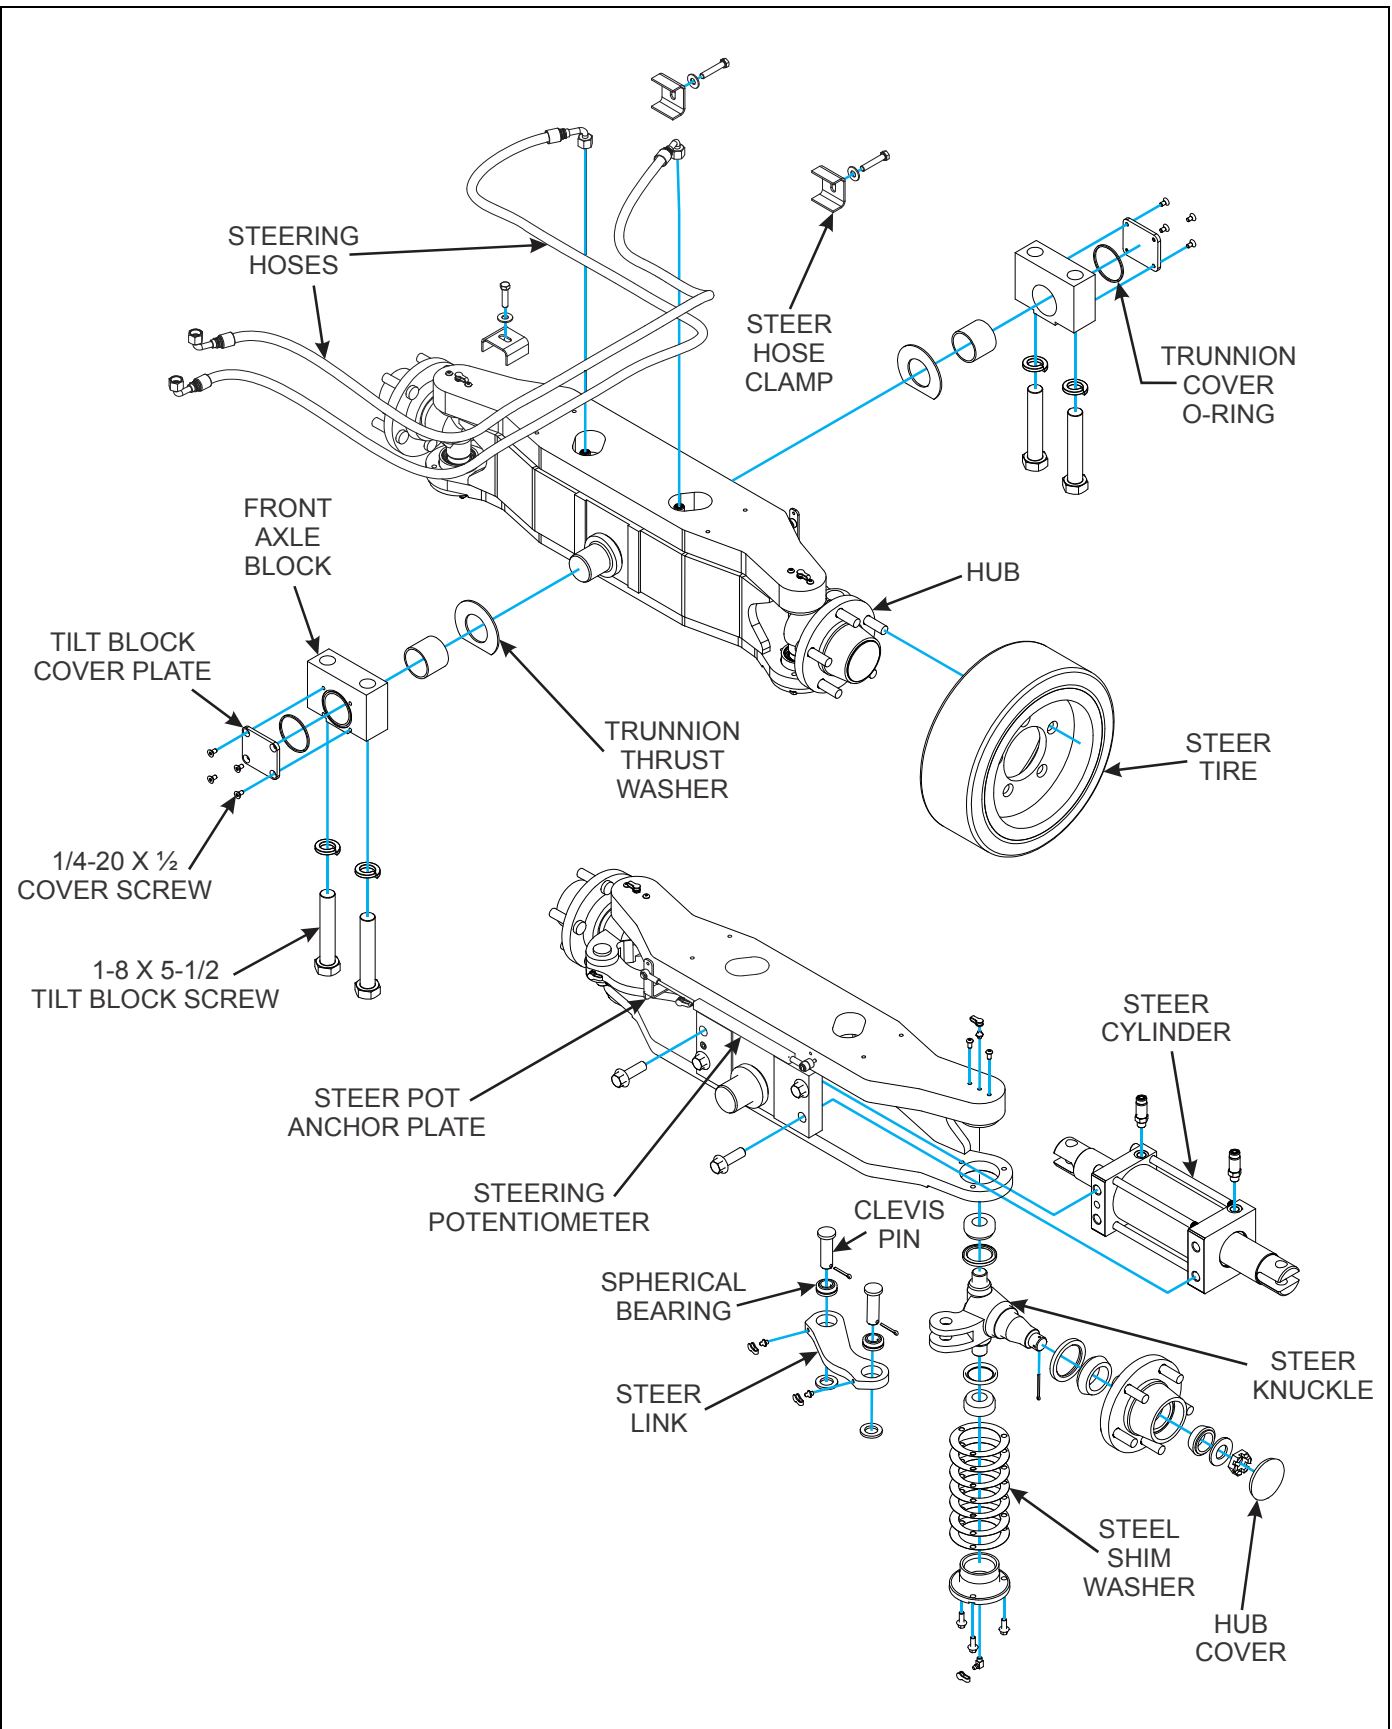

Figure 3-24: Steering Axle Assembly
1. Remove the steering potentiometer and potentiometer bracket (See Figure 3-24).
3. Remove king pin cover plates and kingpin locking screw (3/8-16 x 2-1/2 hex head cap screw) (See Figure 3-24). Remove kingpin by pushing from the top down.
1. Clean the kingpin cover plates and cover pockets on steering yoke (See Figure 3-24). Clean the steering yoke and rear axle weldment.
10. Install the steering potentiometer and the potentiometer bracket (See Figure 3-24).